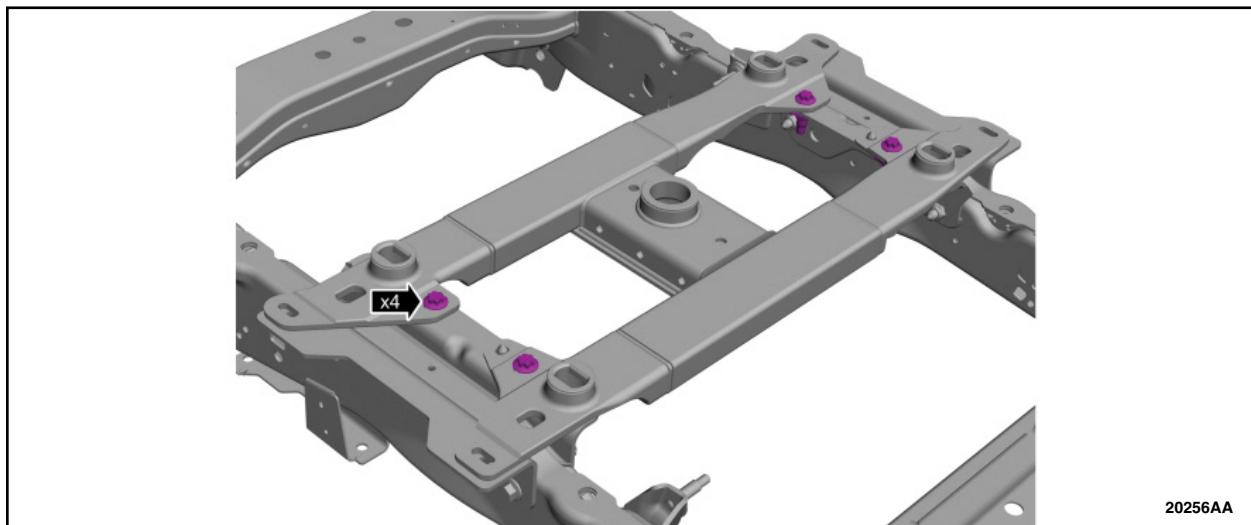

FIGURE 30
41. Install the new hitch-to-inner bracket bolts. See Figure 30.